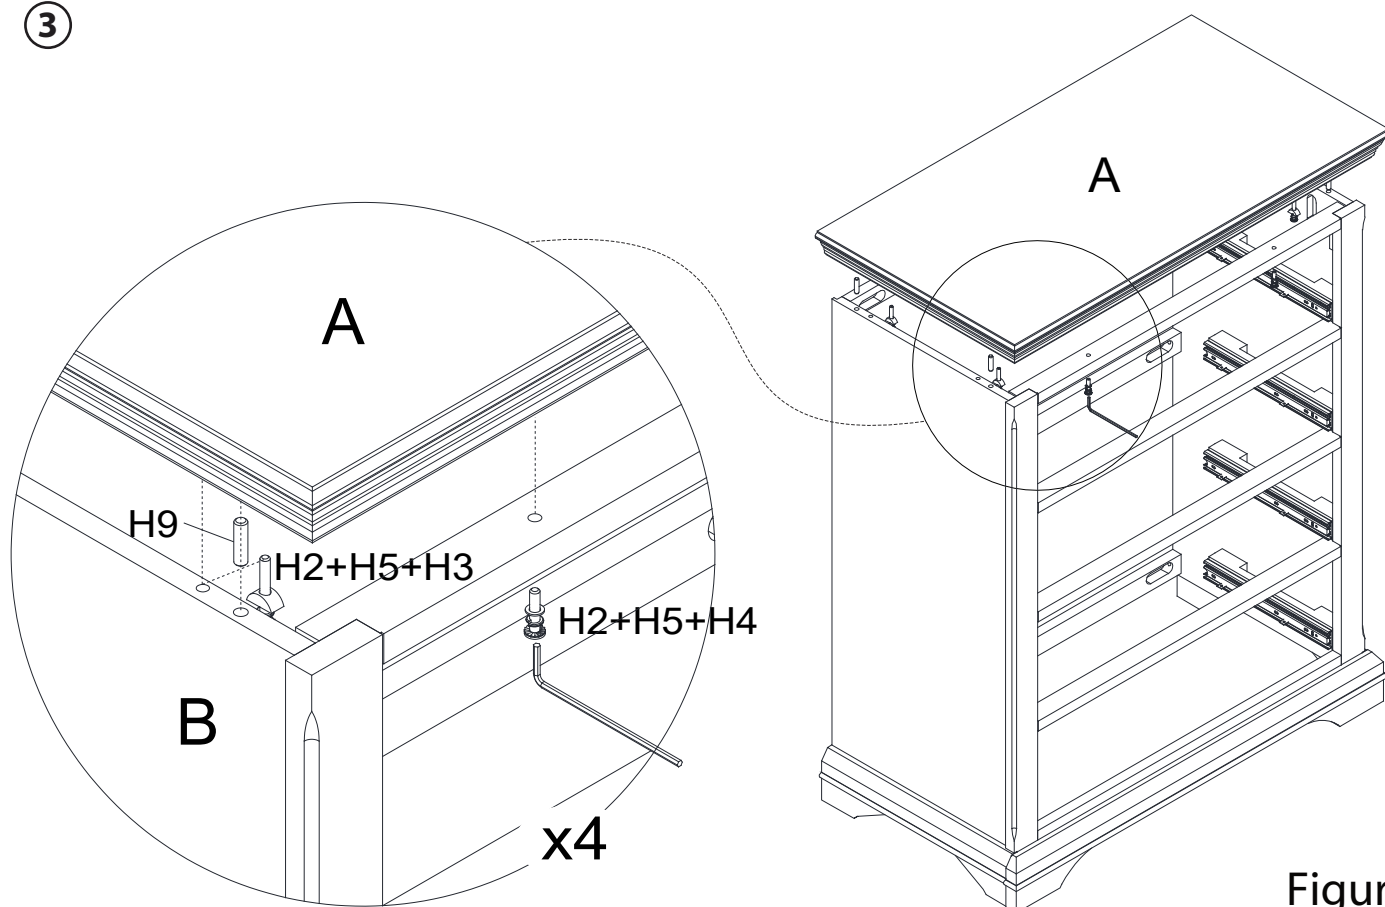

Figure 3
3. Secure both sides of Drawer Front (R1) to drawer assembly as Figure 3.